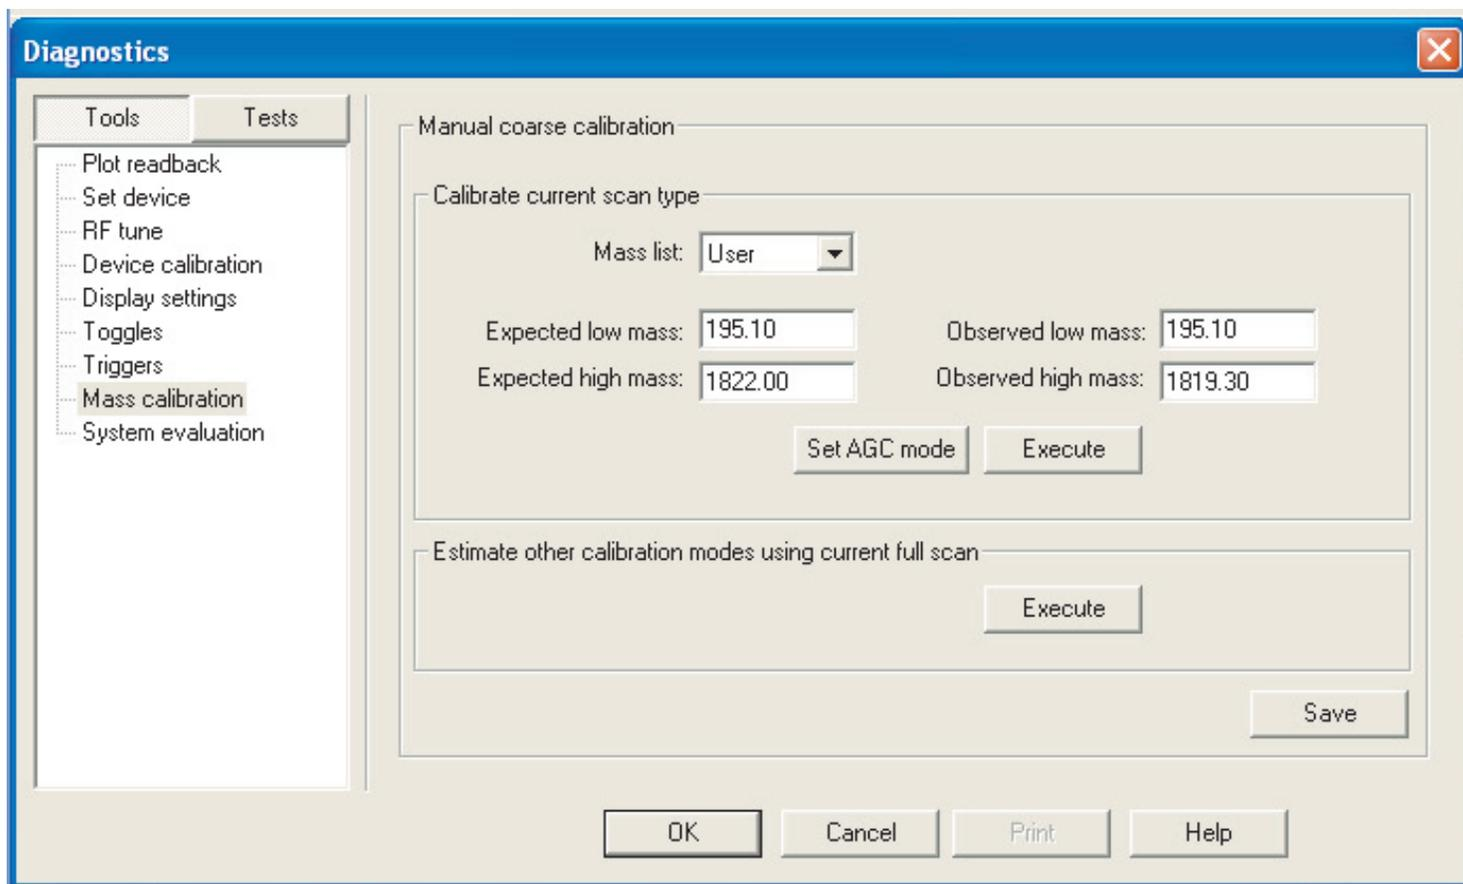

Figure 70. Tune Plus Diagnostics dialog box, normal mass range data
2. In the Tune Plus window, open the Diagnostics dialog box (**Diagnostics>Diagnostics**) shown in Figure 70.
3. Click **Tools** in the upper left of the window. Click on Mass Calibration in the pane below the **Tools** button as shown in Figure 70.
1. Two-point mass calibration is available for all high mass range modes accessed through the Estimate Other Calibration Modes Using Current Full Scan group box (in the Diagnostics dialog box, Figure 70).